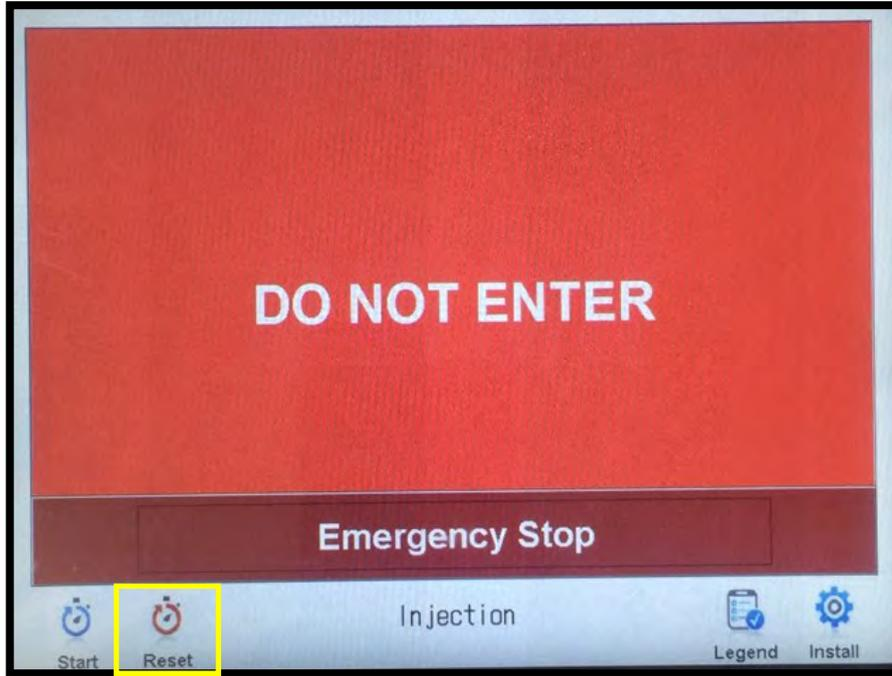

FIGURE 11
4.4.6 Once the situation has been resolved, reset the mRDS by pressing the “Reset” button on the bottom left corner of the Touchscreen Controller prior to operation (Figure 11).